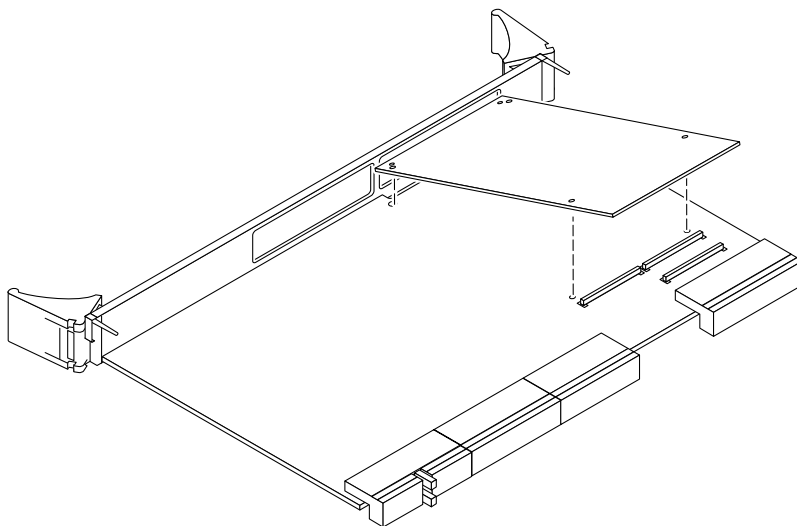

FIGURE 2-5 Inserting the PMC Into the PMC Slot
4. Press the top edge of the SO-DIMM toward the board until the retainer clips click into place (see FIGURE 2-5).
6. **Insert the PMC at an angle into the appropriate PMC slot (FIGURE 2-5).**